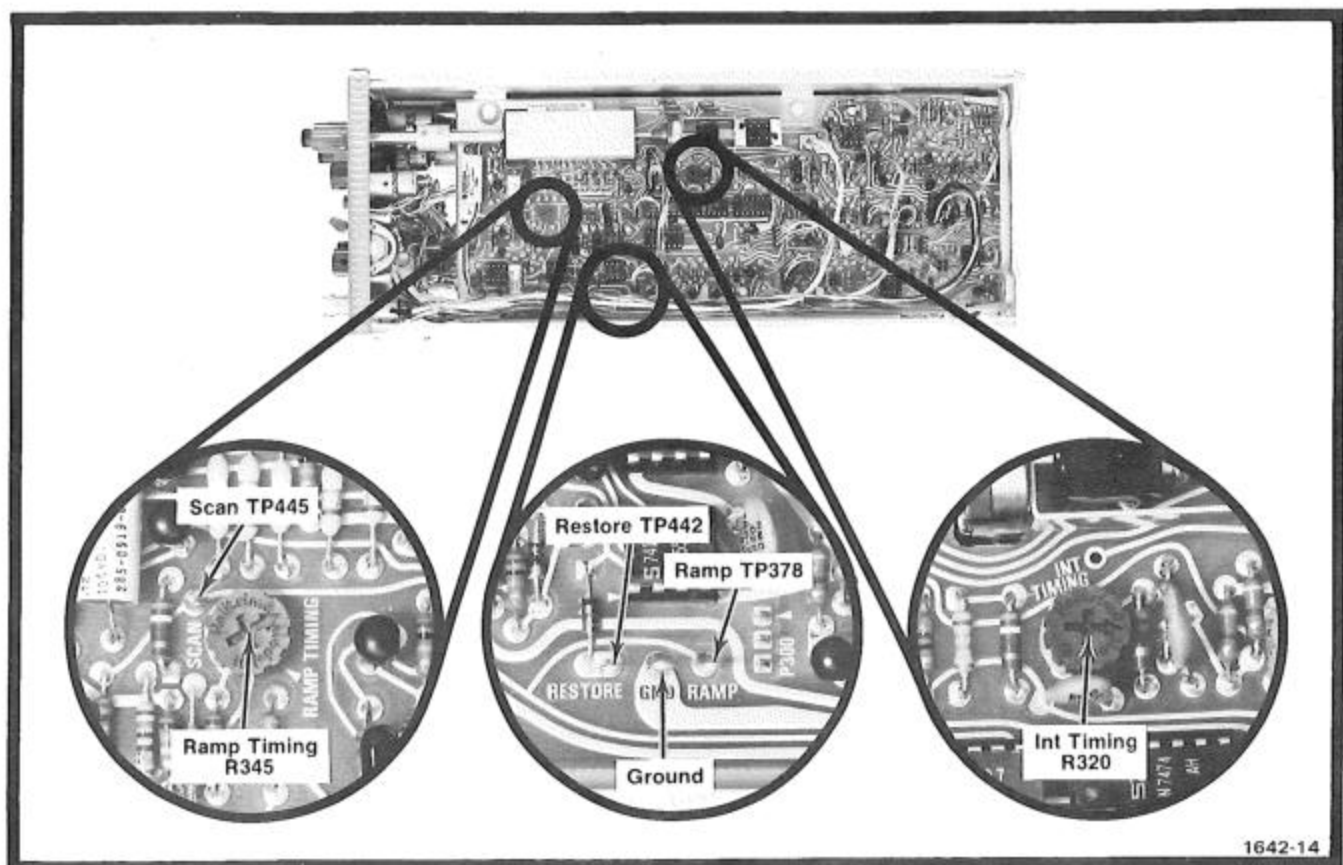

Fig. 5-9. Location of ramp timing adjustments and test points.
c. Connect the red alligator clip to the Ramp test point TP378 (see Fig. 5-9) and the black alligator clip to ground.
f. ADJUST—Ramp Timing R345 (see Fig. 5-9) for a reading of exactly 20 ms.
l. ADJUST—Int Timing R320 (see Fig. 5-9) for a reading of exactly 50 ms.
j. Set the DISPLAY DISPERSION switch to the 20 (2) nm/div position.
l. Set the DISPLAY DISPERSION switch to the 10 (1) nm/div position.
p. Remove the test setup from the 7J20 and set the DISPLAY DISPERSION switch to the 40 (4) nm/div position.
a. Connect a X10 probe between one of the vertical inputs of the test oscilloscope and the Ramp test point TP 378 on the Horizontal Circuit Board in the 7J20. See Fig. 5-9.
b. Connect a X10 probe from the Channel 1 Vertical Input connector of the test oscilloscope to the Scan test point TP 445 (see Fig. 5-9) on the Horizontal Circuit Board in the 7J20.
a. Remove the X10 probe from the Ramp test point and connect it to the Restore pulse test point TP 442 (see Fig. 5-9).